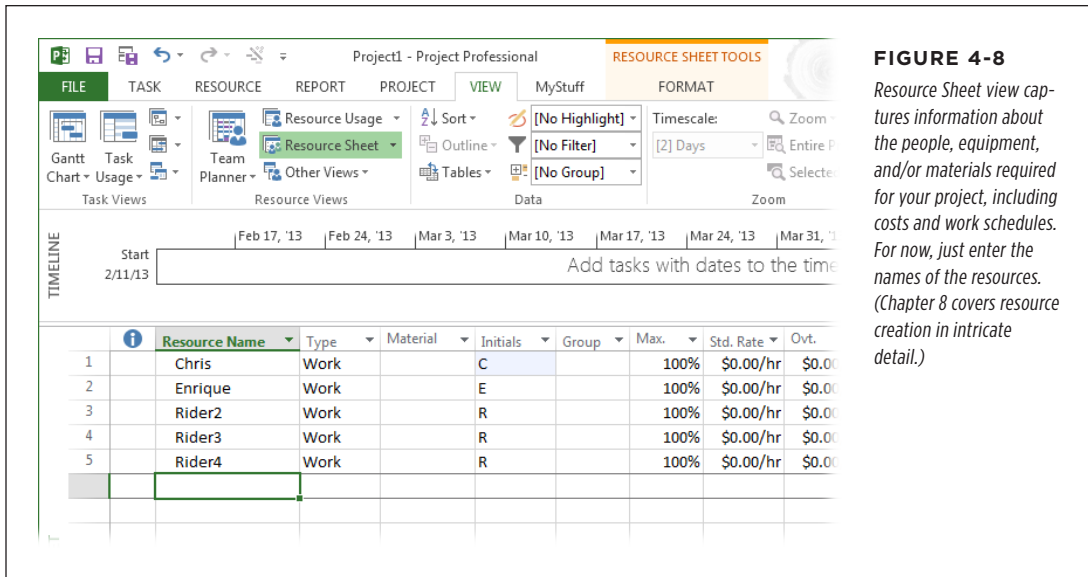

FIGURE 4-8
2. **To add yourself as a resource, click the first Resource Name cell, type your name (in Figure 4-8, it's Chris), and then press Enter.**
If you don't know who else will work on your project, then in the Resource Name cell, type a name that indicates the skill required of the resource, like Rider2, Rider3, and Rider4 in Figure 4-8.